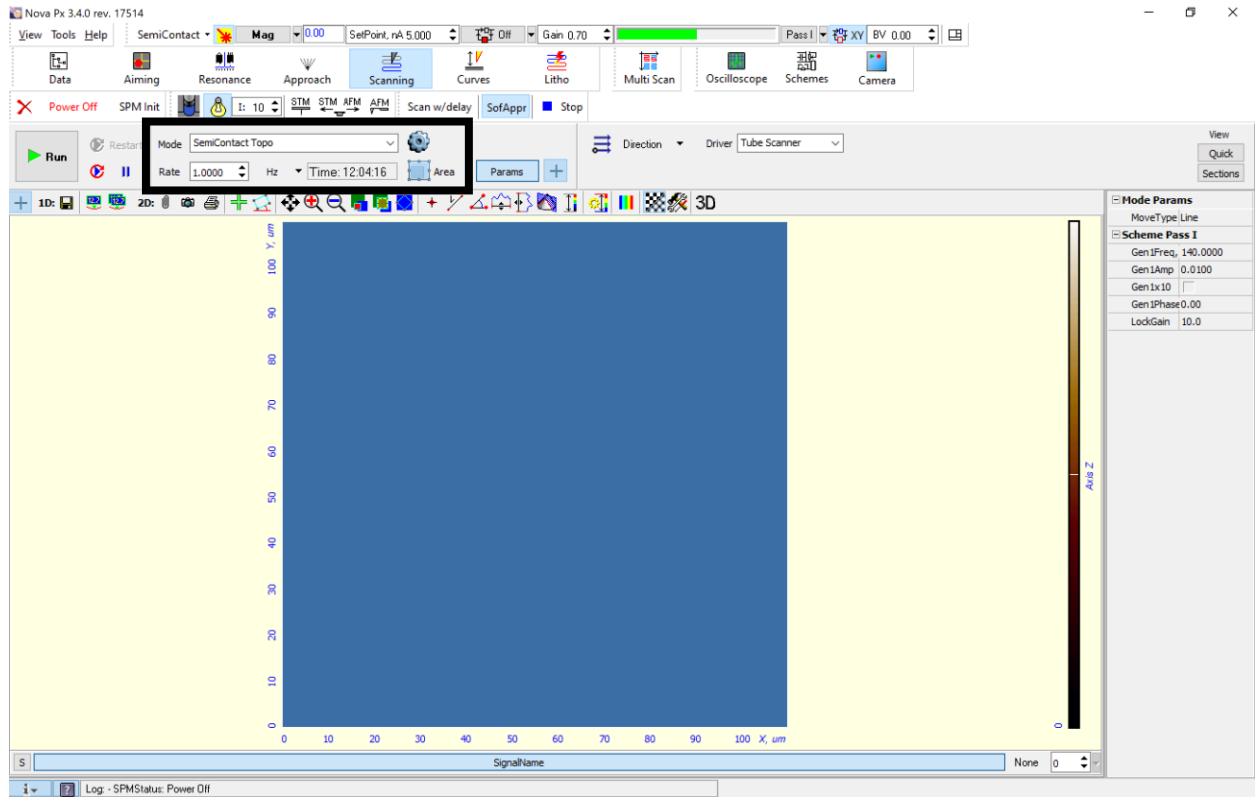

Figure 16: Scanning main menu
- Click the “Area” button in the top center of the scanning menu (Figure 16).
- Select the desired scan mode “SemiContact Topo” is general used for topography maps in semi contact or tapping mode. (Figure 16). To learn more about the other scanning modes consult the manufacture’s manual located in the lab.